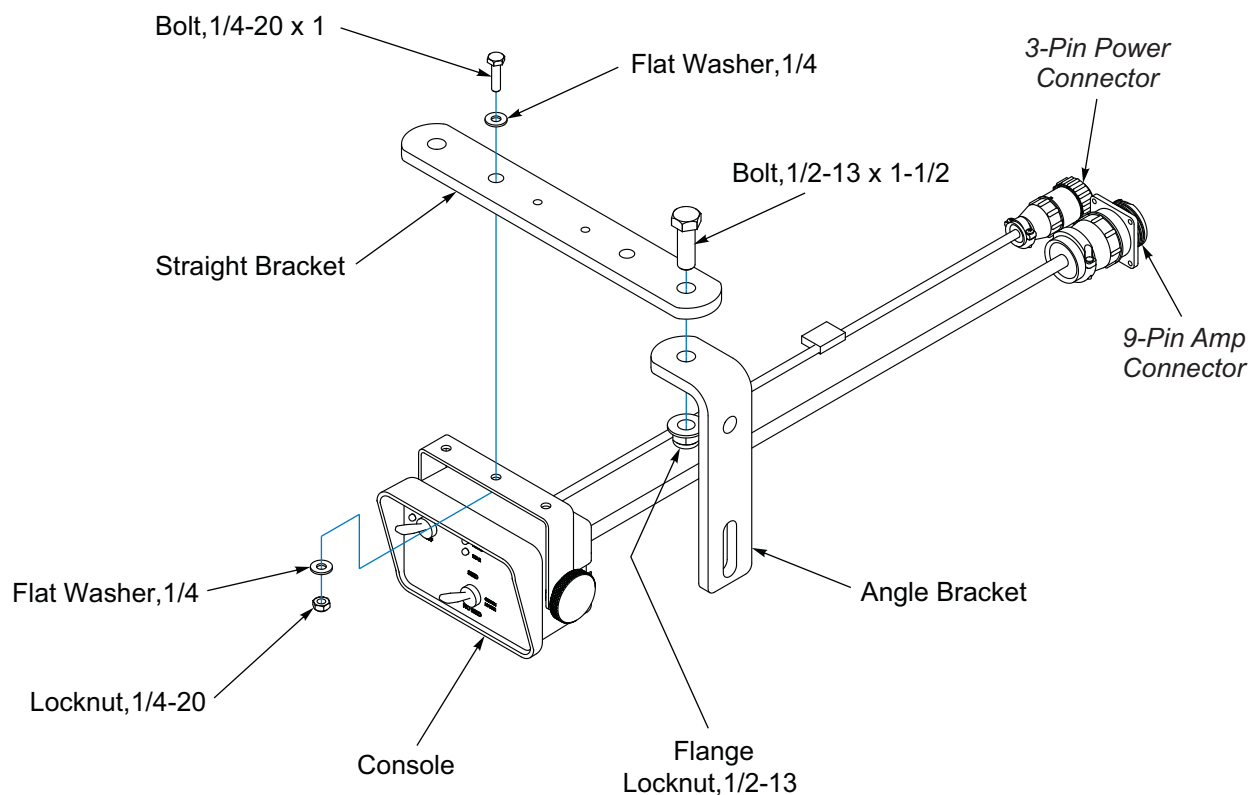

Figure 2-50: Console w/Clutch Control Tractor Installation
1. Mount Angle Bracket onto Tractor where convenient for the operator. **See Figure 2-50.**